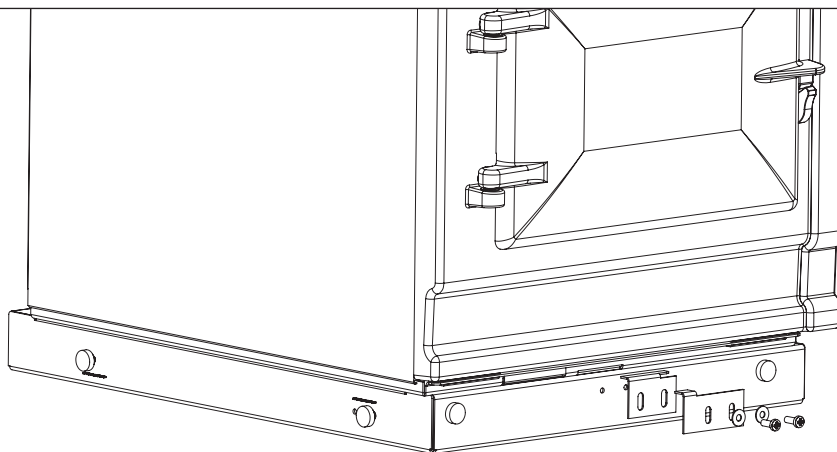

Fig. 31.1
1. Detach hotcupboard from plinth by removing two screws and tongue bracket from plinth (**Fig. 31.1**), slide hotcupboard forwards and away from rear fixing bracket (**Fig. 31.2**).